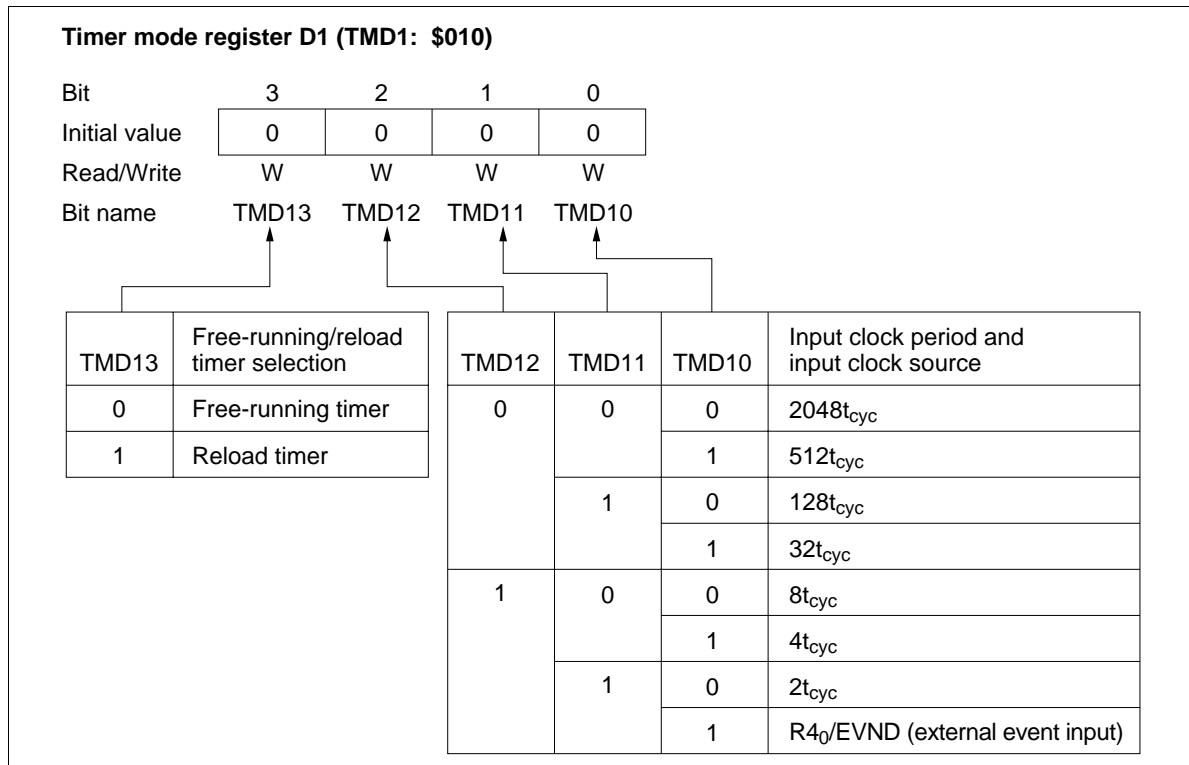

Figure 41 Timer Mode Register D1 (TMD1)
- **Timer mode register D1 (TMD1: \$010):** Four-bit write-only register that selects the free-running/reload timer function, input clock source, and the prescaler division ratio as shown in figure 41. It is reset to \$0 by MCU reset.